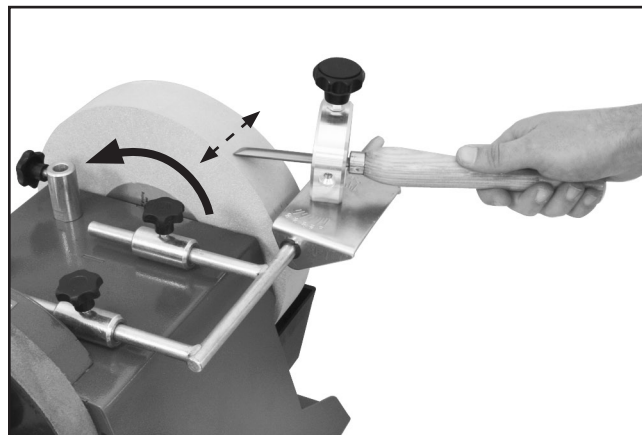

Figure 8. Grinding beveled chisels.
4. Place the assembled jig onto the universal support, as shown in **Figure 8**.